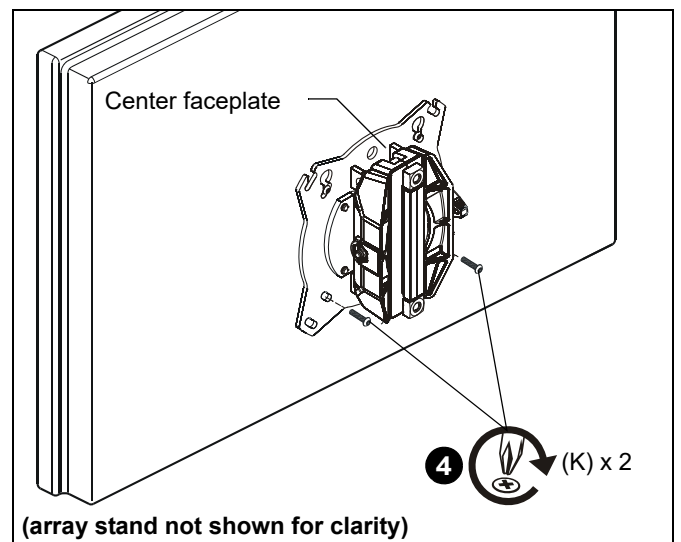

Figure 17
4. Using Phillips screwdriver, install two M4x12 mm Phillips pan machine screws (K) through the *lower* mounting holes on faceplate into the display. (See Figure 17)